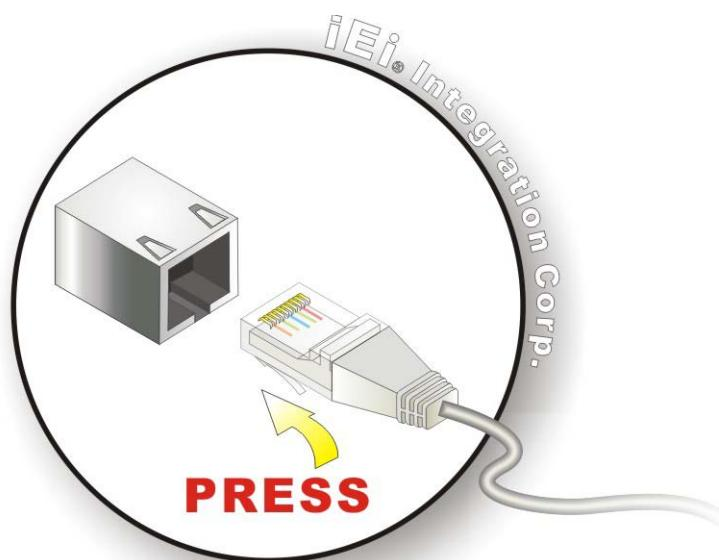

Figure 4-6: LAN Connection
Step 2: Align the connectors. Align the RJ-45 connector on the LAN cable with one of the RJ-45 connectors on the KINO-KBN-i2. See Figure 4-6.